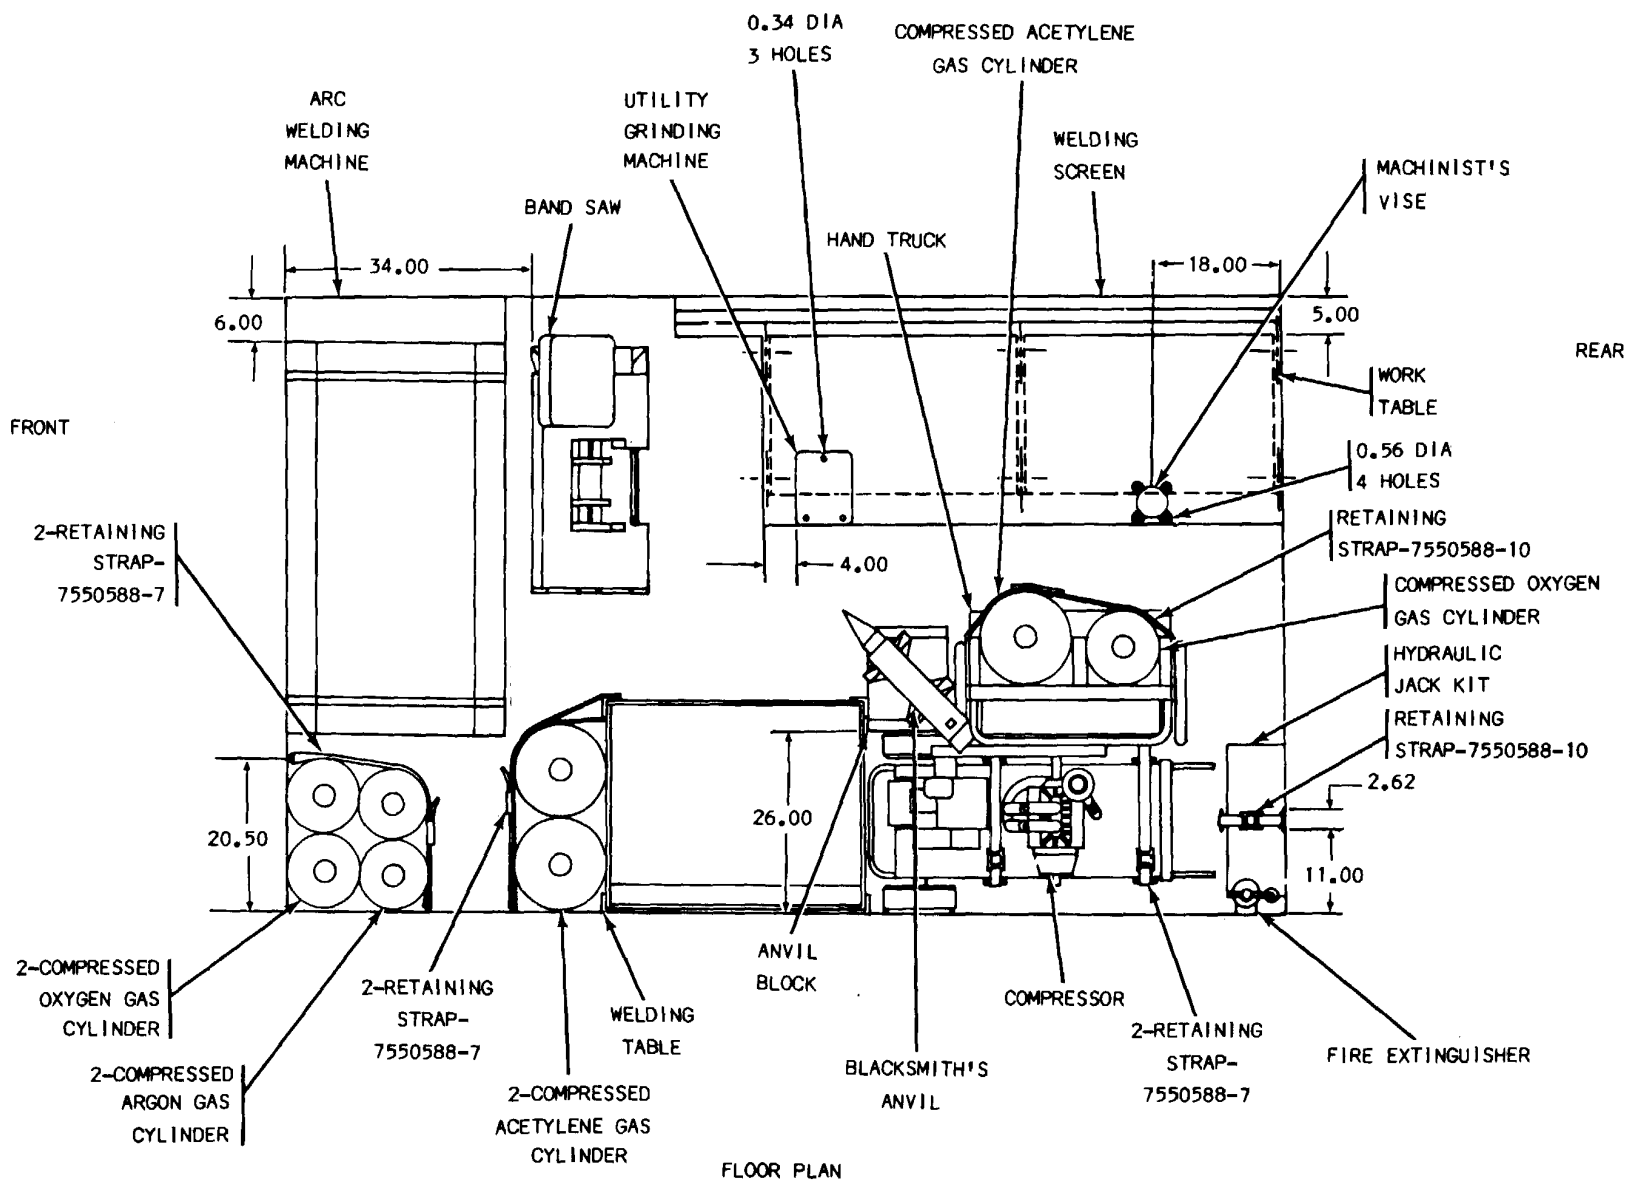
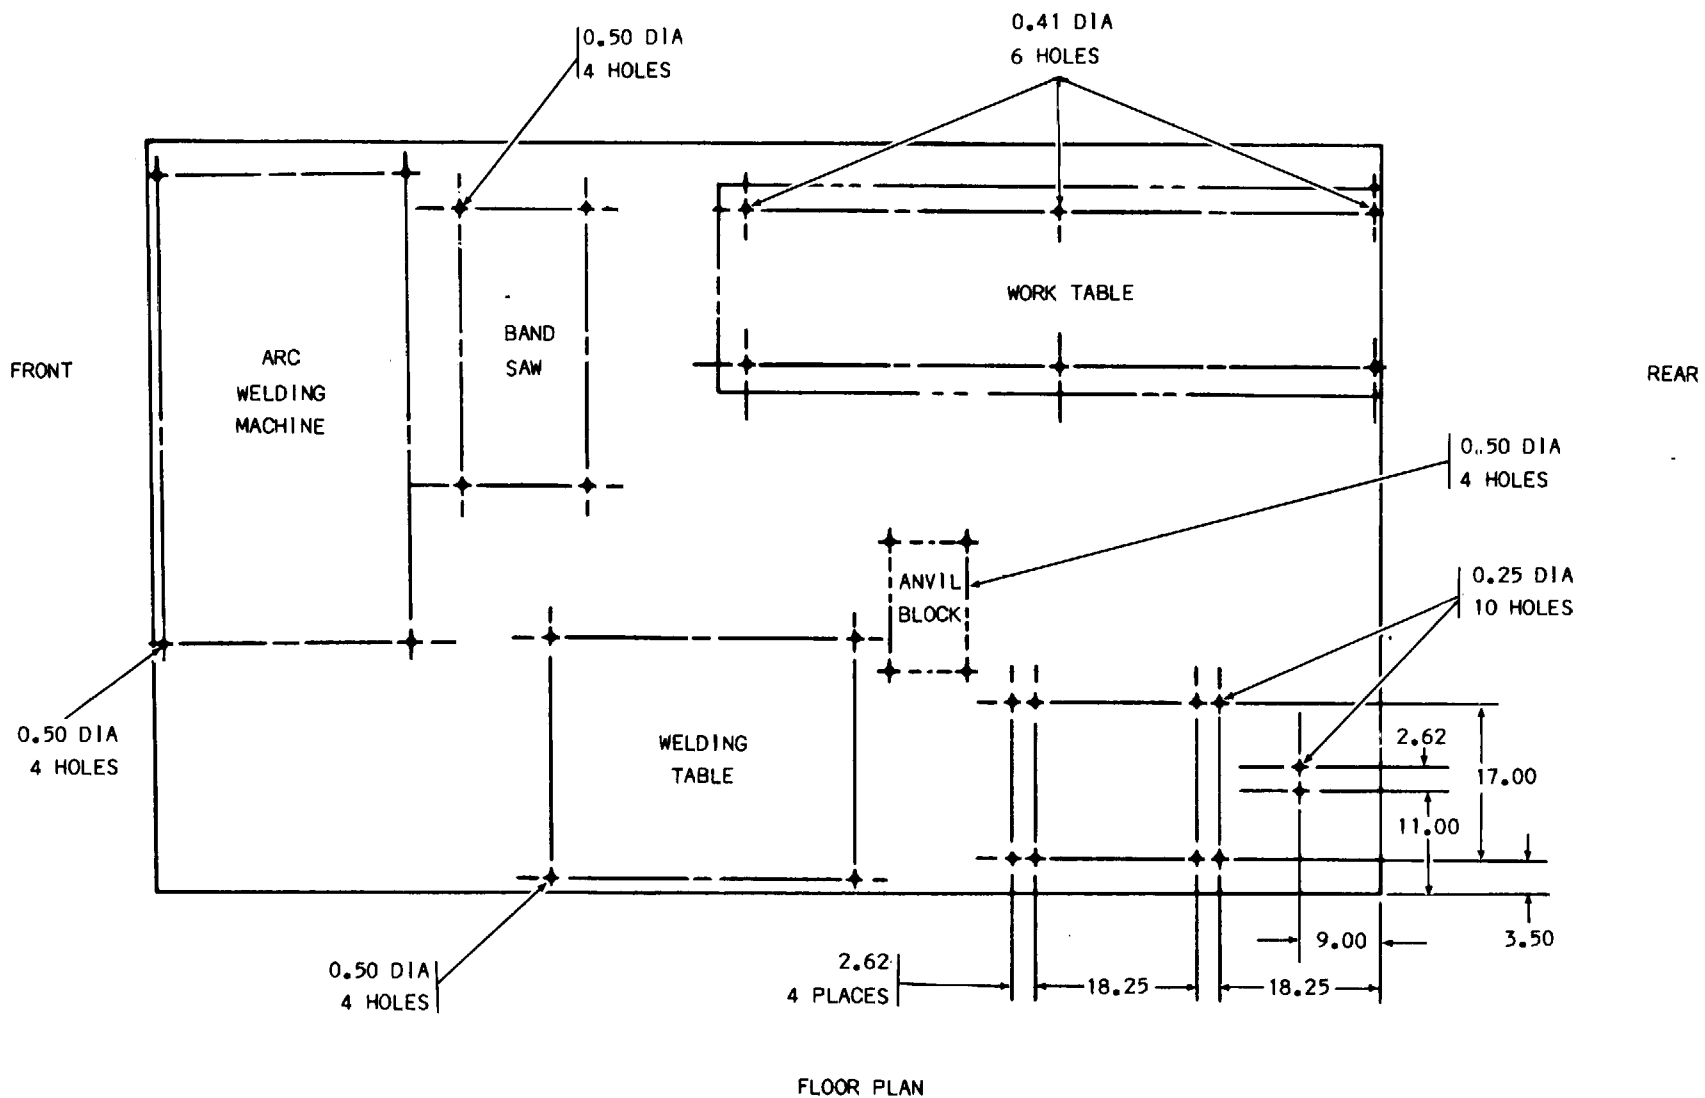
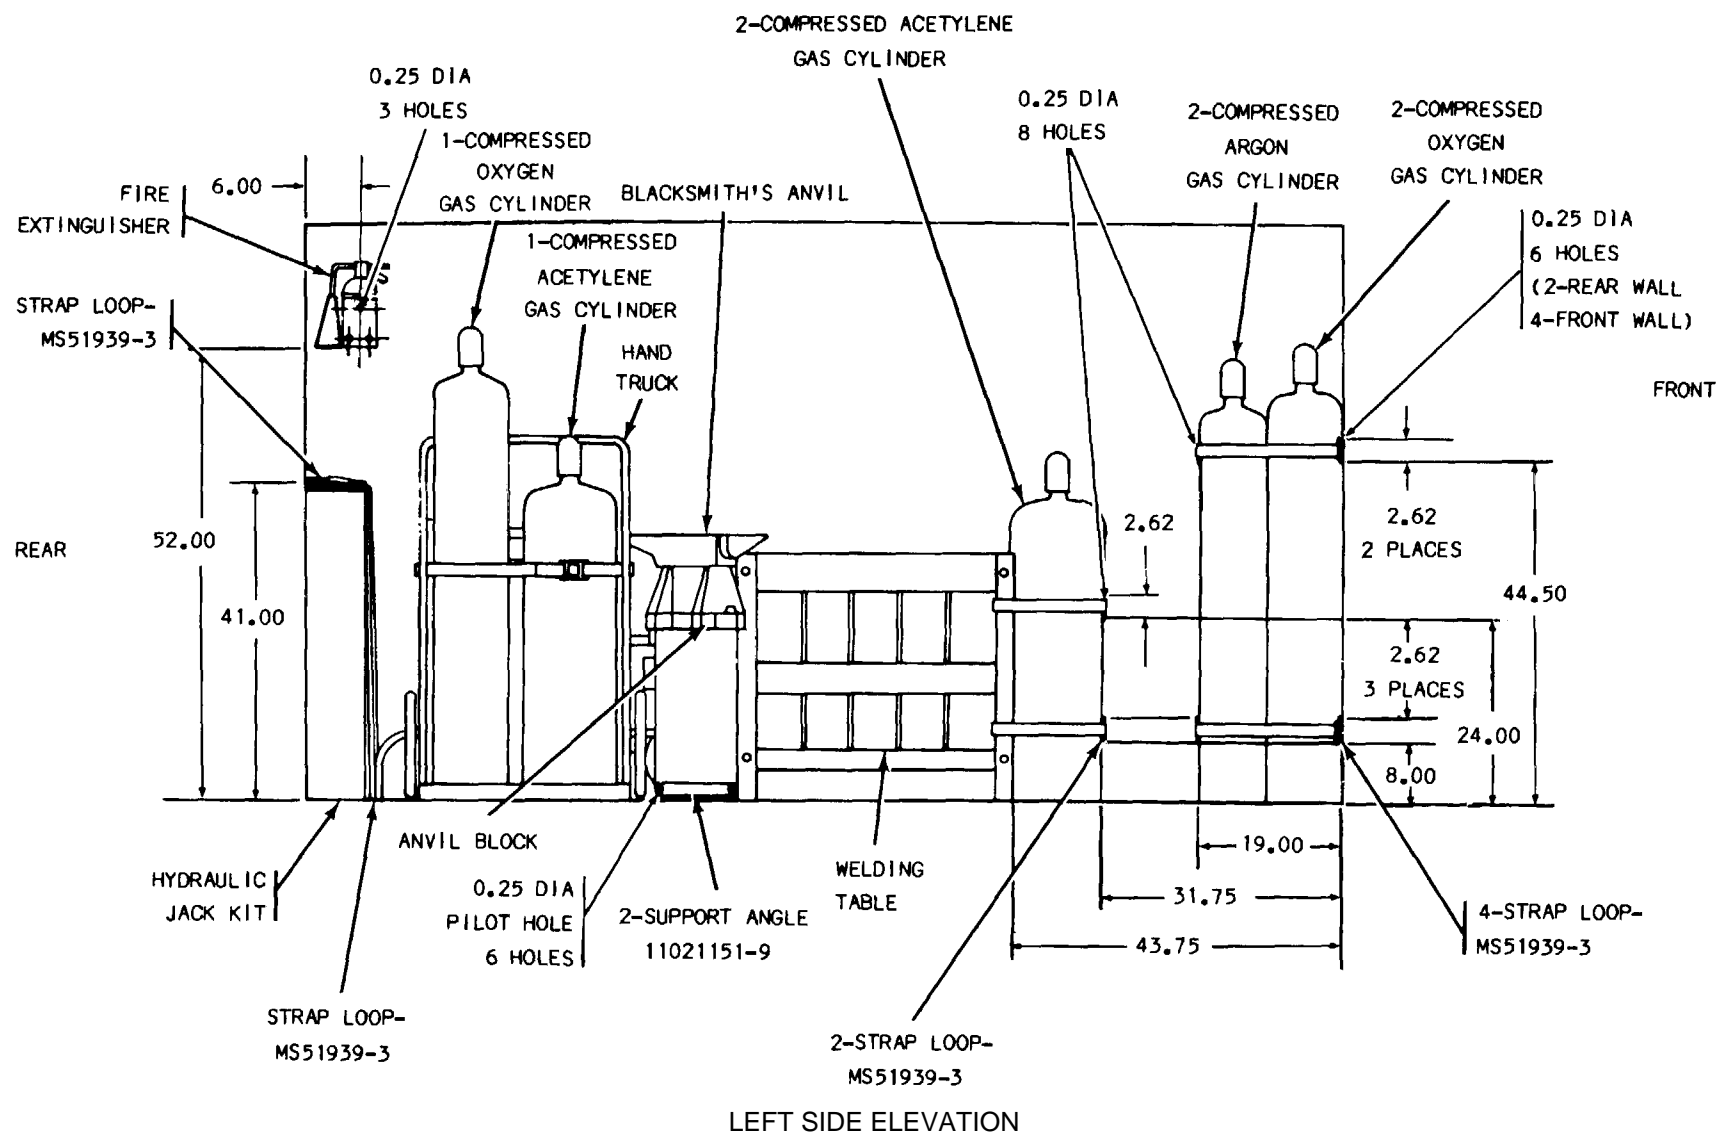

Figure 2. Components to be mounted, unit 1, 280, floor plan.
Figure 3. Dimensions for floor-mounted blind rivet nuts and equipment mounting holes, unit 1, 280, floor plan.
Figure 4. Components to be mounted, left side elevation, unit 1, 280.
Hand blind riveter (5120-00-679-6523) is used to install blind rivet nuts in floor and walls of 280 shelter. Install blind rivet nuts in accordance with the manual supplied with the hand blind riveter. Position floor- and work table top-mounted equipment as shown in figures 2, 4, and 5. Use the equipment mounting holes as a template for location of blind rivet nuts and fasteners in accordance with figures 2, 3, and 4. Positions may be varied to drill into structural members in floor.
a. Follow steps (1) thru (3) below for installation of blind rivet nuts and strap loops in the 280 shelter, unit 1.
(1) Mark and drill twenty-seven 0.25-in. diameter holes in floor and walls in accordance with figures 3 and 4. Install twenty-seven #10 blind rivet nuts (S37B80). Secure twelve strap loops (MS51939-3) to walls and floor, using twenty-four #10 x 1/2-in. countersunk head machine screws (MS35190-271).
(2) Mark and drill six 0.41-in. diameter holes in the rear right floor in accordance with figure 3. Install six 5/16-in. blind rivet nuts (MS27130-S45K).
(3) Mark and drill sixteen 0.50-in. diameter holes in floor in accordance with figure 3. Install sixteen 3/8-in. blind rivet nuts (S37B285).
c. Follow steps (1) through (16) below for equipment installation in the 280 shelter, unit 1.
(1) Mark and drill four 0.41-in. diameter holes in the bottom frame of arc welding machine (3431-00-903-5647). Position arc welding machine in front of 280 shelter in accordance with figure 2 over installed floor-mounted, blind rivet nuts in accordance with figure 3. Secure to floor, using four 3/8- k 1-1/8-in. hex head capscrews (MS90725-61) and four 3/8-in. lockwashers (MS35338-46).
(2) Position band saw (3405-00-517-0592) in right front end of 280 shelter in accordance with figures 2 and 5. Mark and drill four 0.41-in. diameter holes through band saw legs over installed floor-mounted blind rivet nuts in accordance with figure 3. Secure bandsaw to floor, using four 3/8- x 1-1/8-in. hex head capscrews (MS90725-61) and four 3/8-in. lockwashers (MS35338-46).
(3) Position two compressed oxygen gas cylinders (8120-00-151-9758) and two compressed argon gas cylinders (8120-00-248-0174) in front left corner in accordance with figures 2 and 4. Secure to corner walls, using two 92-in. retaining straps (7550588-7).
(4) Position welding table (3436-00-847-3772) against left middle wall in accordance with figures 2 and 4. Mark and drill four 0.41-in diameter holes in welding table legs over installed floor-mounted blind rivet nuts in accordance with figure 3. Secure welding table
(5) Position work table (4910-00-543-7771) in right rear corner of 280 shelter in accordance with figures 2 and 5. Mark and drill six 0.34-in. diameter holes through work table legs over installed floor-mounted blind rivet nuts in accordance with figure 3. Secure work table to floor, using six 5/16- x 1-1/8-in. machine bolts (MS90725-35) and six 5/16-in. lockwashers (MS35338-45).
(6) Position welding screen (3439-00-198-8348) between work table and right side wall in accordance with figures 2 and 5.
(7) Position utility grinding machine (3415-00-517-7754) on work table in accordance with figures 2 and 5. Using utility grinding machine base as a template, mark and drill three 0.34-in. diameter holes through work table top. Secure utility grinding machine to work table, using three 5/16- x 3-in. Machine bolts (MS90725-44), three 5/16-in. Flat washers (MS27183-11), three 5/16-in. lockwashers (MS35338-45), and three 5/16-in. hex nuts (MS51967-5).
(8) Position machinist's vise (5120-00-293-1439) on work table in accordance with figures 2 and 5. Using machinist's vise base as a template, mark and drill four 0.56-in. diameter holes through work table top. Secure machinist's vise to work table top, using four 1/2- x 3-in. hex head capscrews (MS90725-119), four 1/2-in. flat washers (MS27183-17), four 1/2-in. lockwashers (MS35338-48), and four 1/2- in. hex nuts (MS51967-14).
(9) Position two compressed acetylene gas cylinders (8120-00-268-3360) against front end of welding table in accordance with figures 2 and 4.
(10) Position and center two support angles (11021151-9) on anvil block (5120-00-449-6644) 10-in. Face bottom with two 0.34-in. diameter holes touching the anvil block (fig. 2 thru 4). Using support angles as templates, mark and drill four 0.22-in. diameter pilot holes into anvil block base. Secure support angles to anvil block, using four 5/16- x 1-1/2-in. lag screws (MS16992-522) and four 5/16-in. lockwashers (MS35338-45).
(11) Position anvil block, with attached support angles on floor, next to welding table in accordance with figures 2 and 4. Position over installed floor-mounted blind rivet nuts in accordance with figure 3. Secure anvil block to floor, using four 3/8- x 1-1/4-in. hex head capscrews (MS90725-62) and four 3/8-in. lockwashers (MS35338-46).
(12) Position blacksmith's anvil (5120-00-180-2885) on top of installed anvil block in accordance with figures 2 and 4. Using blacksmith's anvil as a template, mark and drill two 0.22-in. diameter pilot holes into anvil block. Secure blacksmith's anvil to anvil block, using two 5/16- x 2-1/2-in. Lag screws (MS16992-525) and two 5/16-in. lockwashers (MS35338-45).
(13) Position mounting bracket of fire extinguisher (4210-00-555-8837) on rear left wall in accordance with figure 4. Mark and drill three 0.22-in. diameter holes in bracket. Position over installed wall-mounted blind rivet nuts in accordance with figure 4. Secure mounting bracket to wall, using three #10 x 1/2-in. countersunk head machine screws (MS35190-271). Install fire extinguisher in mounting bracket (fig. 2).
(14) Position compressor (4310-00-861-9820) in rear left corner of 280 shelter in accordance with figure 2. Secure compressor to floor, using two 92-in. retaining straps (7550588-7). (Leave retaining straps unfastened at this step.)
(15) Position hand truck (3920-01-113-0117) next to compressor in accordance with figure 2. Position compressed oxygen gas cylinder (8120-00-151-9758) and compressed acetylene gas cylinder (8120-00-268-3360) on hand truck. Secure compressed oxygen and acetylene gas cylinders to hand truck, using a 110-in. retaining strap (7550588-10). Secure hand truck to compressor, using the two previously installed 92-in. retaining straps passed around hand truck base. Tighten retaining straps.
(16) Position hydraulic jack kit (5120-00-595-8388) against rear wall in accordance with figures 2 and 4. Secure hydraulic jack kit to rear wall and floor using 110-in. retaining strap (7550588-10).